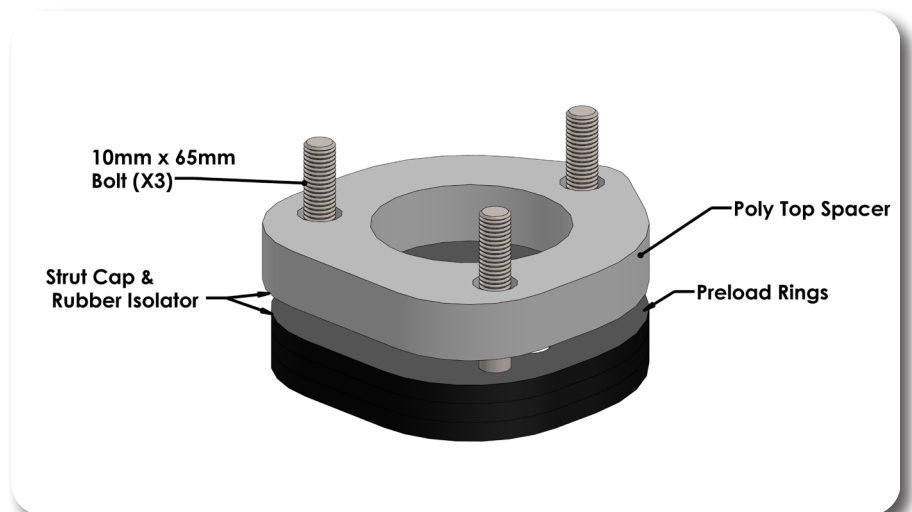

Figure 6
17. Install the provided 3/4" thick poly top spacer. Install the strut assembly with the poly top spacer and preload spacers back into the truck. Fig. 6